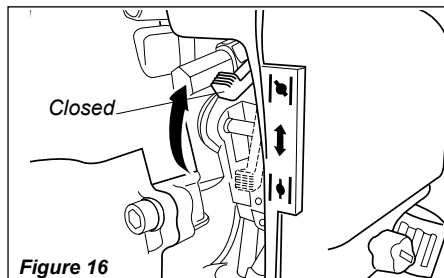

Figure 16
3. Set the choke lever to the CLOSED position if engine is cold. See Figure 16.